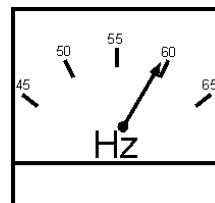

Figure 43. Frequency Meter (Hz)
10. The generator's frequency meter (Figure 43) displays the 60 cycle output frequency in HERTZ.